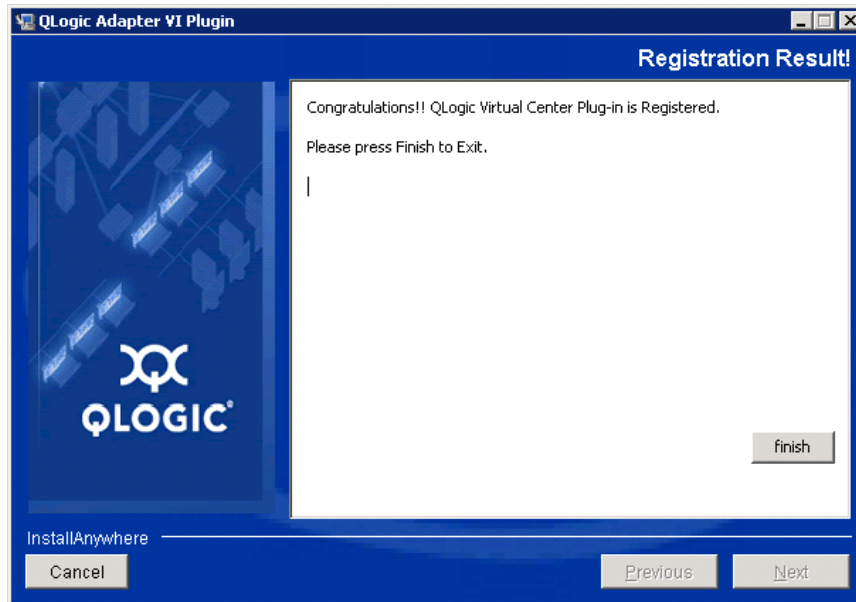

Figure 2-16. QLogic Adapter VI Plug-in Wizard: Registration Result
- When the Registration Result window (Figure 2-16) appears, click **Finish** to exit.